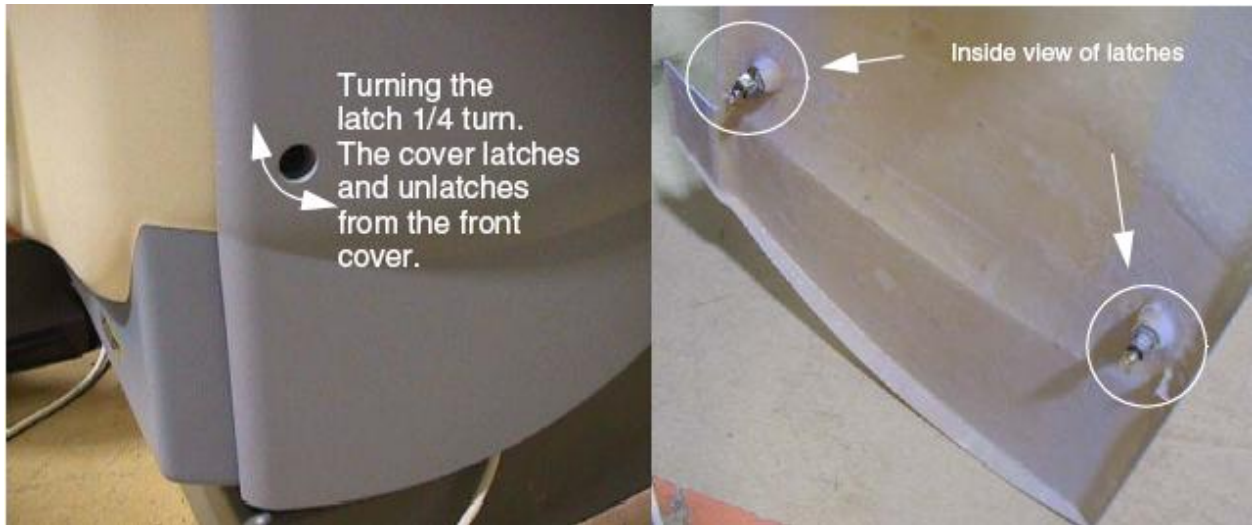

FIGURE 2-1 SIDE COVER LATCHES
2. Use an 8mm Hex wrench to unlatch the side cover from the front cover. See Figure 2-1.